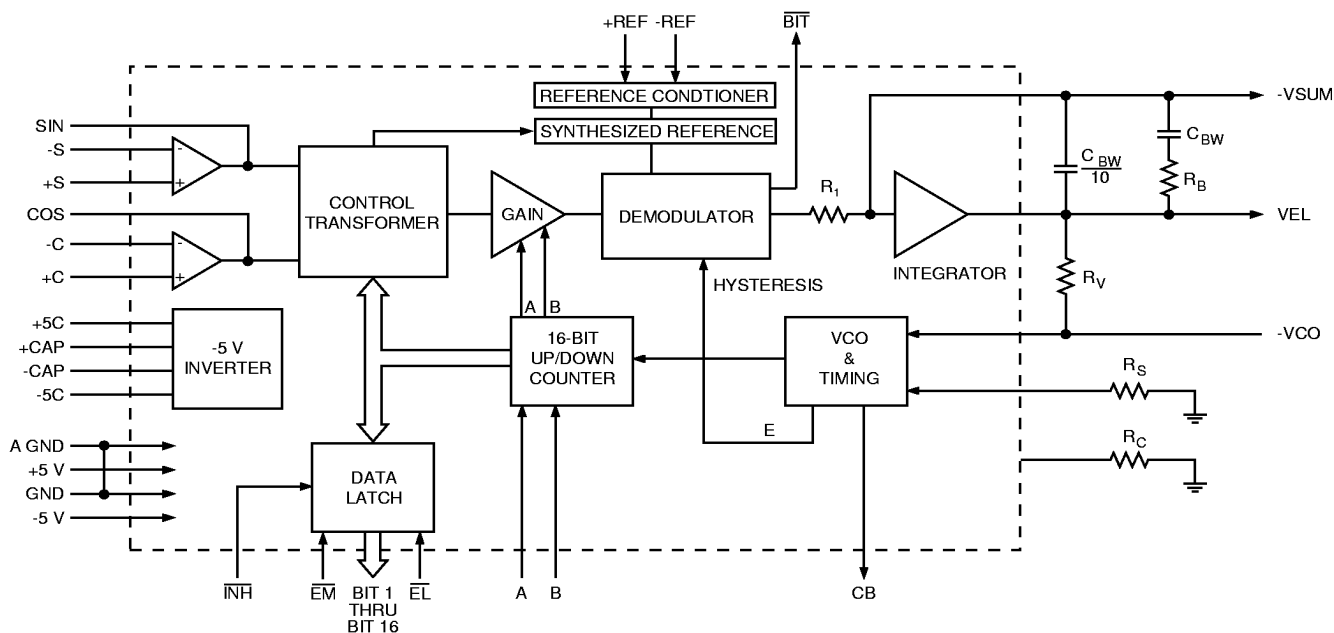

FIGURE 1. RDC-19220/2S BLOCK DIAGRAM
Figure 1 is the Functional Block Diagram of RDC-19220/2S. The converter operates with  $\pm 5$  V dc power supplies. Analog signals are referenced to analog ground, which is at ground potential. The converter is made up of two main sections; a converter and a digital interface. The converter front-end consists of sine and cosine differential input amplifiers. These inputs are protected to  $\pm 25$  V with 2 k $\Omega$  resistors and diode clamps to the  $\pm 5$  V dc supplies. These amplifiers feed the high accuracy Control Transformer (CT). Its other input is the 16-bit digital angle  $\phi$ . Its output is an analog error angle, or difference angle, between the two inputs. The CT performs the ratiometric trigonometric computation of  $\text{SIN}\theta\text{COS}\phi - \text{COS}\theta\text{SIN}\phi = \text{SIN}(\theta - \phi)$  using amplifiers, switches, logic and capacitors in precision ratios.